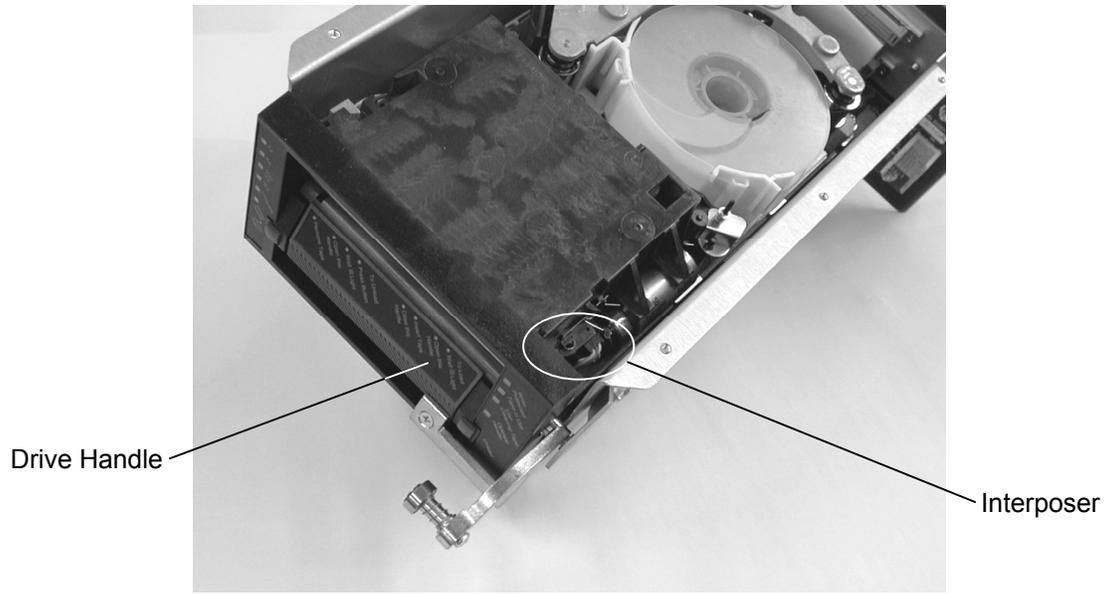

Figure 5-21 Location of Interposer
4. If a tape cartridge is stuck in the drive, it is necessary to open the interposer and lift the drive handle to remove the cartridge. See Figure 5-21. The interposer must be pulled back to release the handle and allow it to be lifted. While slowly lifting the drive handle use a finger to prevent rapid ejection of the tape cartridge. This will help to ensure the leader will unbuckle properly. Note that the interposer must be held open in order for the tape cartridge to be completely removed from the tape drive.